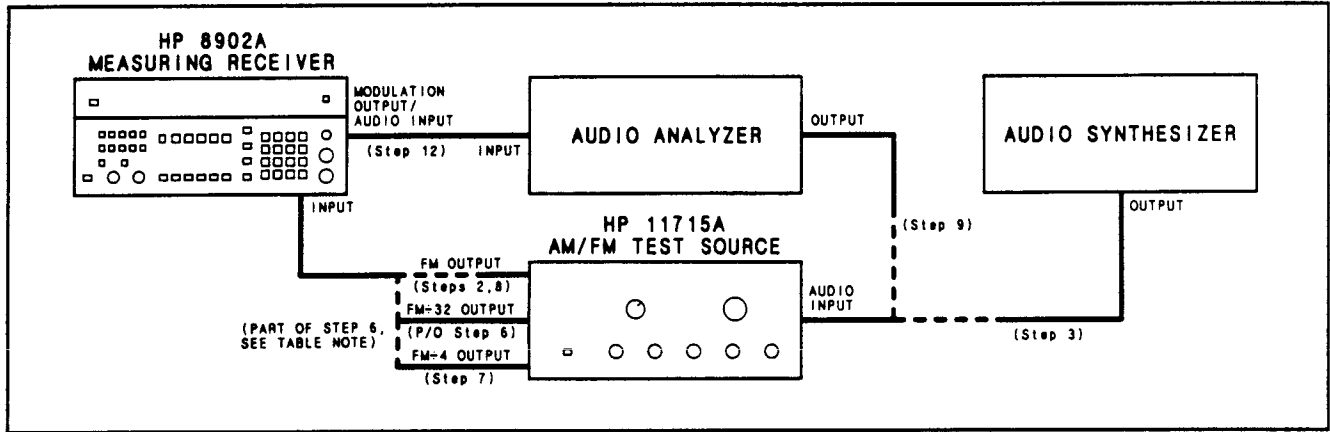

Figure 4-3. Φ M Performance Test Setup
2. On the AM/FM test source, set the test mode to FM. Connect its FM output to the Measuring Receiver's INPUT. (See Figure 4-3.)
3. Set the multifunction synthesizer to 200 Hz at -10 dBm. Connect its output to the audio input of the AM/FM test source. (See Figure 4-3.)
* Connect the FM÷32 output of the AM/FM test source to the Measuring Receiver's INPUT to make this measurement. (See Figure 4-3.) Press AUTOMATIC OPERATION, then MHz to return the Measuring Receiver. If the resolution is not 0.001 rad, press Φ M again.
- On the Measuring Receiver, key in 3.1 SPCL to set the IF to 455 kHz. Press FM. On the AM/FM test source, connect the FM÷4 output. (See Figure 4-3.) Set the multifunction synthesizer frequency as shown in the following table. Set the Measuring Receiver High Pass Filter as shown in the table. Set the audio synthesizer level to give the FM deviation shown in the table. After setting each FM deviation, press Φ M. For each setting, the Measuring Receiver's display should read between the limits indicated in the table.
- Connect the FM output of the AM/FM test source to the Measuring Receiver's INPUT. (See Figure 4-3.) Press AUTOMATIC OPERATION on the Measuring Receiver.
- Set the audio analyzer's oscillator to 1 kHz. Connect its output to the audio input of the AM/FM test source. (See Figure 4-3.)
12. Connect the audio analyzer's input to the Measuring Receiver's MODULATION OUTPUT/AUDIO INPUT. (See Figure 4-3.) Set the audio analyzer to measure the distortion on the 1 kHz signal at the MODULATION OUTPUT/AUDIO INPUT. Set the high-pass filter on the audio analyzer to 400 Hz. The distortion should be 0.1% (-60 dB) or less.